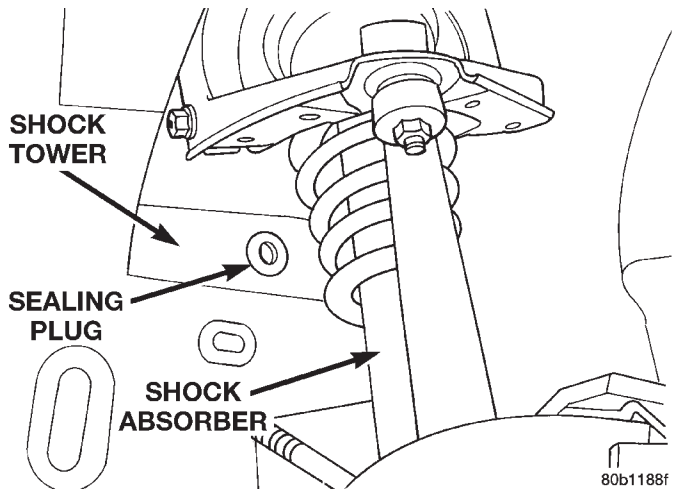

Fig. 9 Cable Routing Hole Sealing Plug
- (13) If vehicle is not equipped with antilock brakes, just a sealing plug will be installed in the wheel speed sensor cable routing hole (Fig. 9). Remove the sealing plug from the hole.
(18) On a vehicle not equipped with antilock brakes, install sealing plug back in routing hole (Fig. 9).